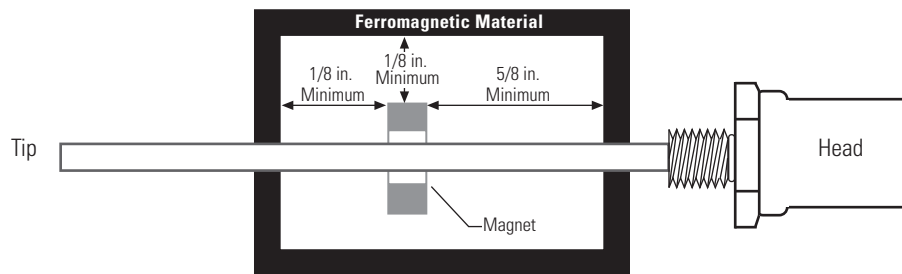

Figure 2-3a
2. Install the permanent magnet over the LDT rod. Mount the permanent magnet to the movable device whose displacement will be measured. To minimize the effect of magnetic materials (i.e. iron, steel, etc.) on the magnetic field of the permanent magnet, ensure the minimum spacing requirements are met as shown in Figures 2-3a-c. (Any non-magnetic materials can be in direct contact with the permanent magnet without affecting performance.)